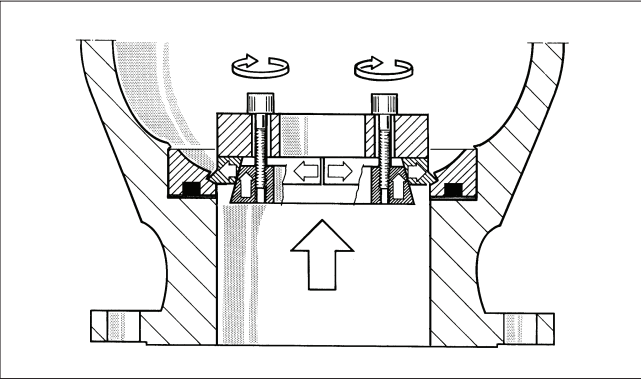

Fig. 9 Removing a locked seat
- Remove the seat (25) from the body cap making sure that it is not damaged during the operation. Removal of a locked type seat is done using a special tool which can be ordered from the manufacturer (see Figure 9 and Section 8 'Tools').
- Remove the ball (3) from the body (1) by gripping the edges of the pocket bore with a special tool. To detach the ball from the spline driver (4), turn the ball to the open position before lifting. Make sure that the ball is not damaged and put it onto a soft surface.